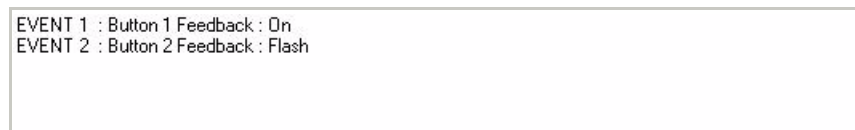

FIG. 22 Event Script window - Event 2
5. With button 2 selected, select **Flash** from the *Select Button Feedback* drop-down menu, and click on **Add To Script** add this feedback to the script. The *Event Script* will now show **Event 2** as **Button 2 Feedback: Flash** (FIG. 22).